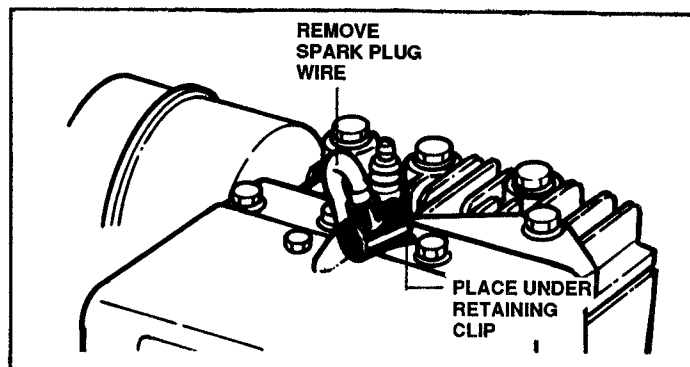

FIGURE 8
3. Remove spark plug wire from spark plug and place under the spark plug retaining clip, located on the head of the engine. See Figure 8.
- Remove spark plug wire and place under the spark plug wire retainer clip, located on the head of the engine. Refer to Figure 8.